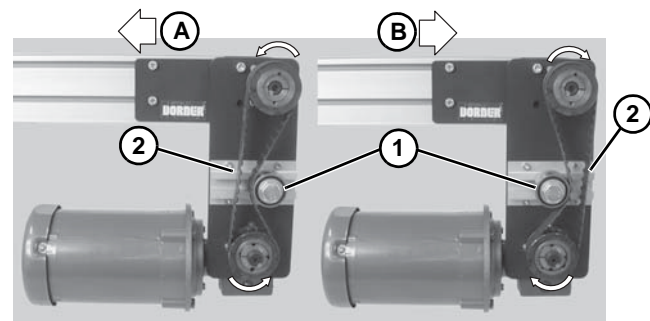

Figure 17
3. Depending on conveyor belt travel (direction A or B), locate timing belt tensioner (Figure 17, item 1) as shown. Tension timing belt to obtain 1/8" (3 mm) deflection for 6 lb (3 Kg) of force at timing belt midpoint (Figure 17, item 2). Tighten tensioner screw to 110 in-lb (12 Nm).